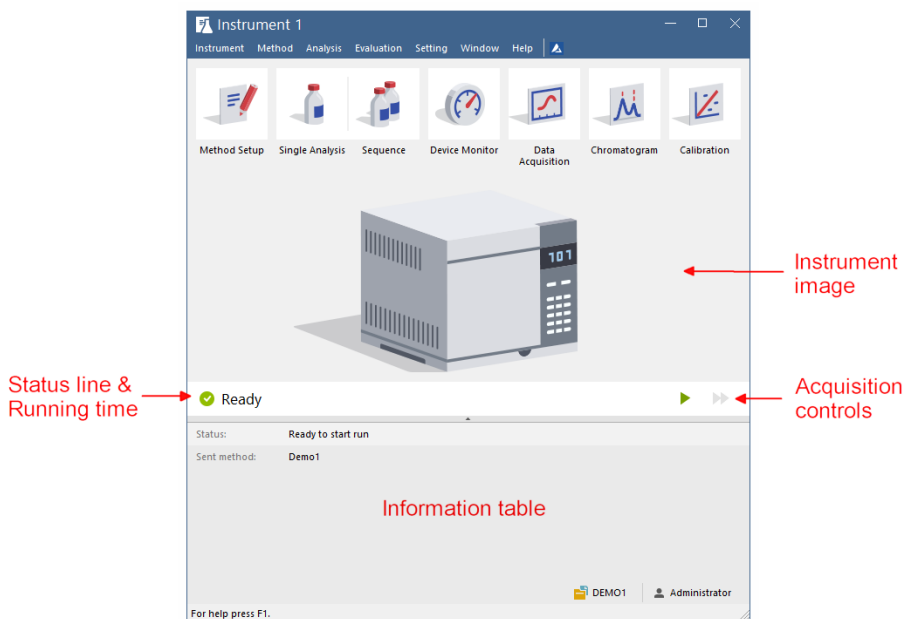
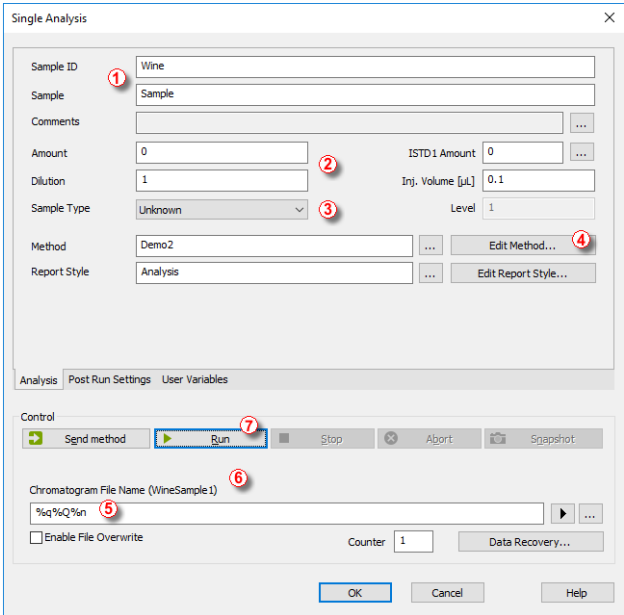

Fig 11: Instrument window
Fig 12: Single Analysis dialog
- The **Instrument** window will open; **Fig 11** on pg 18. shows the most important icons in the **Instrument** window. During the tour, we will review
- The fields in the *Analysis* section contain information about the sample. You may set the values in the fields as shown in **Fig 12** on pg 20., as typical analysis settings. Once this is selected as described, your instrument window will be the same as shown in **Fig 11** on pg 18.
- *Sample ID* and *Sample* fields ① are only informational.
- Values in *Amount*, *Dilution*, *ISTD Amount* and *Inj. Volume* fields ② are used for further calculations.
- Choosing the *Standard* from the *Sample Type* menu and entering a value in the *Level* field ③ would mark this sample as the calibration standard and save the chromatogram into the CALIB subdirectory.
- The measurement of the sample will be performed according to the actual modification of the template method opened in the **Instrument** window. The *Edit Method...* button ④ serves to change the parameters of the actual template method. Click the button to open the **Method Setup** dialog and check the setting of the *Autostop* parameter (*Autostop* is enabled and *Run Time* set to 7.5 minutes). Return to the **Single Analysis** dialog by pressing OK button.
- **Chromatogram File Name** ⑤ field is used for entering the file name of the resulting chromatograms. It is possible to use plain text together with variables adding the time, date, sample name or other parameters to create a unique chromatogram name. The resulting name can be seen just above the field ⑥ in parentheses.
- Run the analysis by clicking the **Run** button ⑦. The **Single Analysis** dialog will close now. If you open it again, you will see three more buttons (**Stop**, **Abort**, **Snapshot**) that will allow you to stop or abort the analysis or take snapshots (see the chapter "**Data Acquisition window**" on pg 21.).
- In the **Instrument** window look at the **Status line** (see **Fig 11** on pg 18.). The acquisition is now signaled by the **RUNNING** state and the actual run time shown there.
- To see the data acquisition in process and possibly control it, click the **Data Acquisition**  icon (see **Fig 11** on pg 18.) to enter the **Data Acquisition** window.
- Depending on your station's configuration, one or more signals may be displayed. The number of detectors (signals) and their names can be seen in the upper right corner of the graph ①.